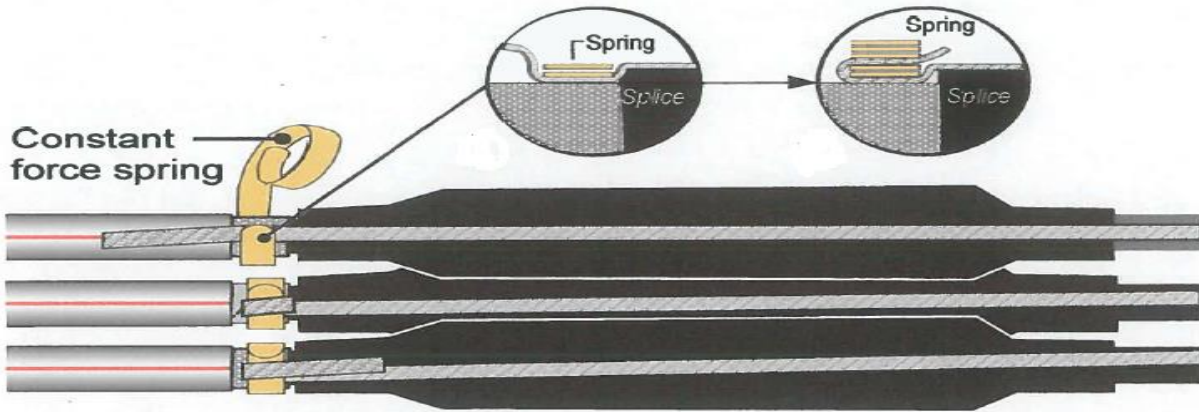

Figure 24
3. Connect copper braids to the solid dielectric cables over the copper mesh with spring clamps. Fold the excess braids back over the splices and wrap the remaining layers. Trim excess braid and secure with vinyl tape. Refer to Figure 24.